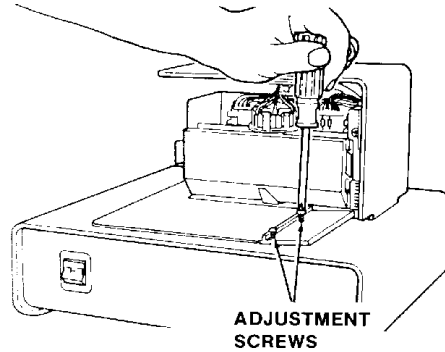

Figure 22. Edge Guide Adjustment.
- a). Loosen the two screws holding the edge guide (See Figure 22).